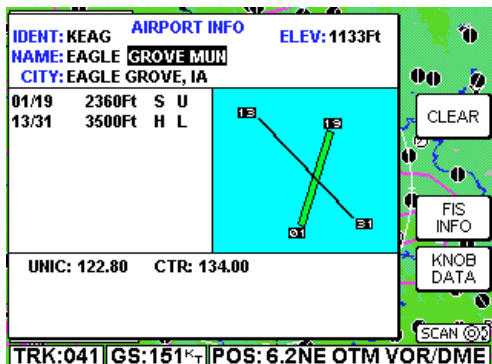

Figure 16
4. Turn the inner knob to sequence through all the airport names in the database beginning with **EAGLE**, stopping at the desired name as in Figure 16.